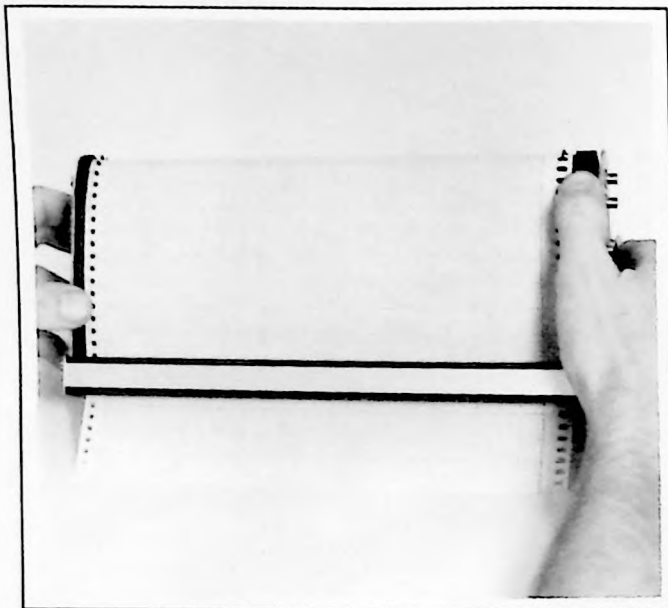

Figure 3-10. Paper Feedout
f. Advance paper down and through feedout roller using thumbwheel. See Figure 3-10. The chart magazine is now ready for external feedout if chart tear-off is desired.